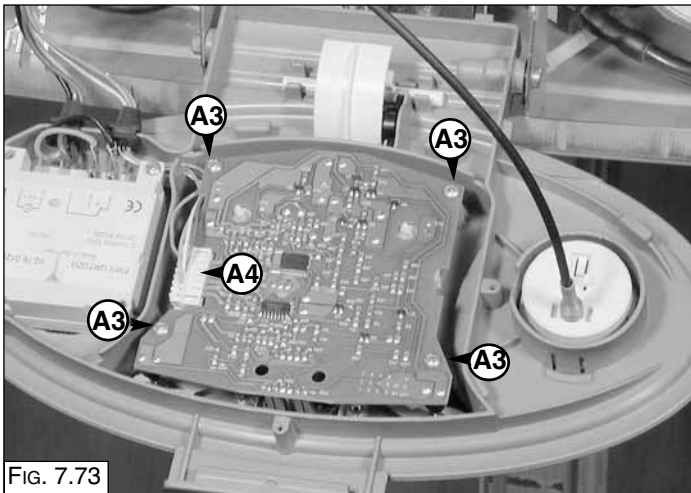

FIG. 7.73
7. Unscrew the display P.C.B. mounting screws "A3" and disconnect the P.C.B. connection cable "A4" (Fig. 7.73);